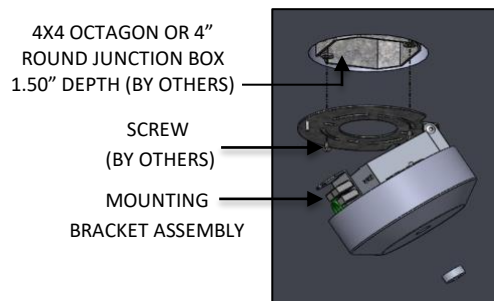

FIG. 11 – MOUNTING BRACKET ASSEMBLY INSTALLATION
3. Attach MOUNTING BRACKET to JUNCTION BOX (by other) as shown below in FIG. 11.